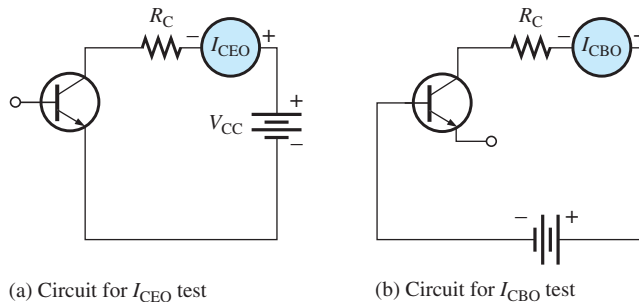

FIGURE 3–64 Leakage current test circuits.
Very small leakage currents exist in all transistors and, in most cases, are small enough to neglect (usually nA). When a transistor is connected as shown in Figure 3–64(a) with the base open ($I_B = 0$), it is in cutoff. Ideally $I_C = 0$, but actually there is a small current from collector to emitter, as mentioned earlier, called I_{CEO} (collector-to-emitter current with base open). This leakage current is usually in the nA range for silicon. A faulty transistor will often have excessive leakage current and can be checked in a transistor tester, which connects an ammeter as shown in part (a). Another leakage current in transistors is the reverse collector-to-base current, I_{CBO} . This is measured with the emitter open, as shown in Figure 3–64(b). If it is excessive, a shorted collector-base junction is likely.
2. In a transistor bias circuit, such as the one in Figure 3–55, what happens if R_B opens?
3. In a circuit such as the one in Figure 3–55, what are the base and collector voltages if there is an external open between the emitter and ground?